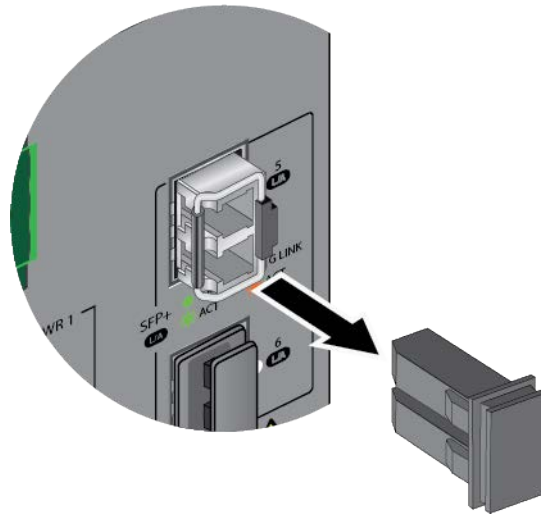

Figure 27. Removing the Dust Cover from an SFP+ Transceiver
4. Remove the dust cover from the transceiver. Refer to Figure 27.